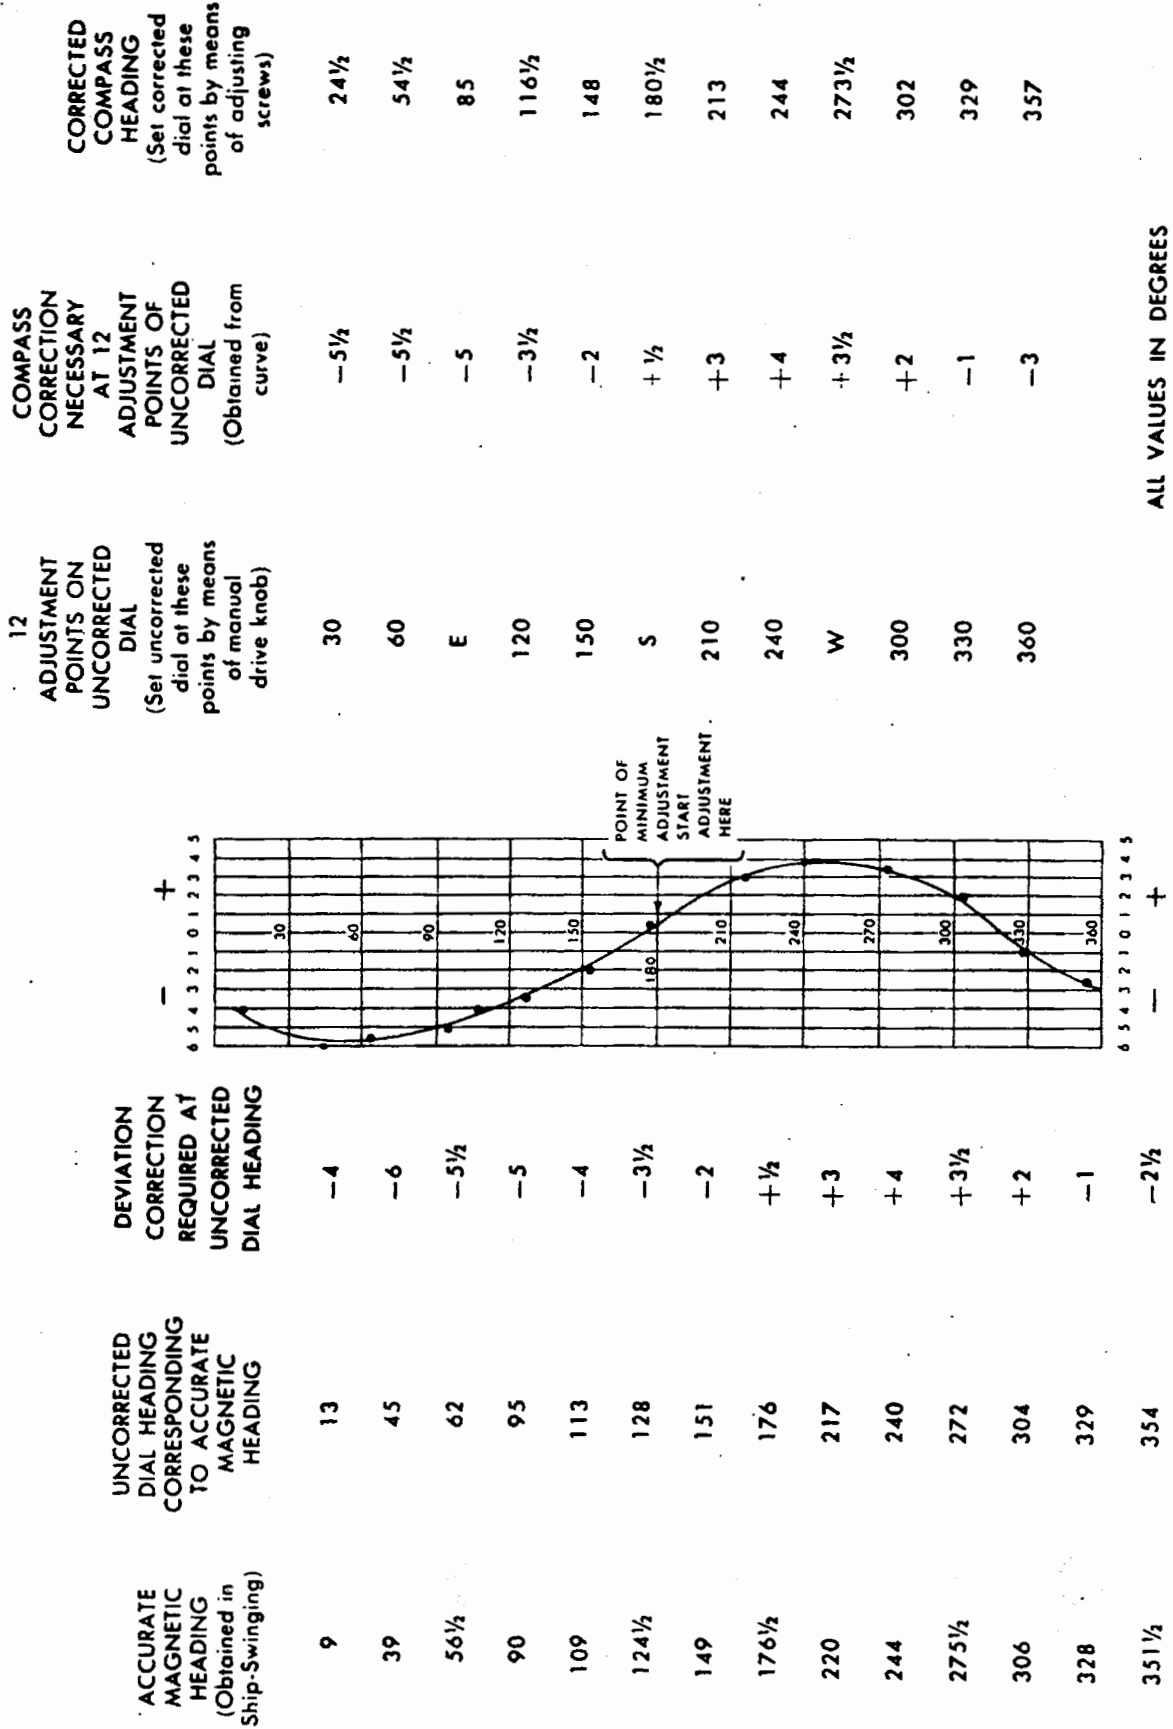

Figure 4-130. P-3 Compass Ground Swinging Deviation Chart.
a. Starting at a point corresponding to location of any one of 12 adjusting screws (N, 30, 60, E, etc.) set airplane on 12 accurate magnetic headings, 30 degrees apart. At each point, make a record of heading shown on uncorrected dial as compared to accurate magnetic heading (see figure 4-130) and also enter deviation (correction required) with its correct algebraic sign. If accurate magnetic heading of airplane is more than that
b. Prepare a graph similar to the one in figure 4-130, and enter it on deviation (correction required) found at each of accurate magnetic headings used in swing of airplane on compass rose. Then draw a smooth curve as close to deviation point as possible. By interpolation, read from curve deviation (correction required) at each of exact 30 degree headings at which an adjusting screw is located (N, 30, 60, E, etc.) and list these figures in a separate column shown in figure 4-130.